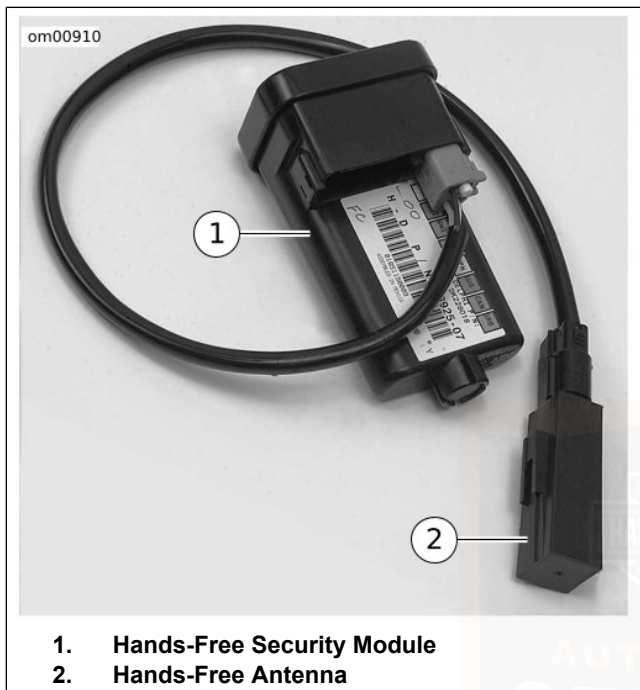

Figure 39. Security Module with Antenna (shown removed)
See Figure 39. The Harley-Davidson Smart Security System (H-DSSS) consists of a Hands-Free Security Module (HFSM) (1) and a Hands-Free Antenna (2) mounted on the motorcycle, and a Hands-Free Fob **carried** by the rider/passenger.